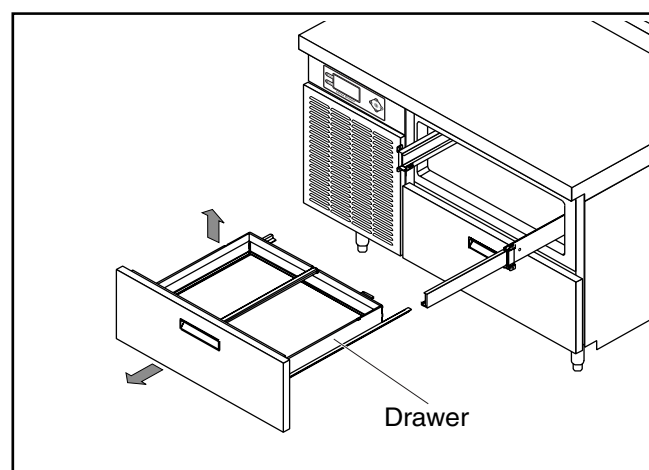

Figure 2. Drawer Removal
2. Pull and lift the drawer to remove it from the unit (Figure 2).